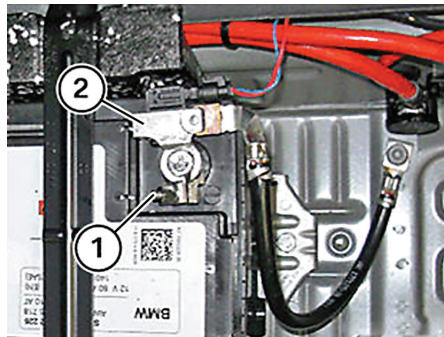

Fig. 1 Ground cable connection location at battery
2. Loosen nut (1), then pull off battery ground lead (2) and IBS in an upward direction, place to one side and secure, **Fig. 1**. Do not under any circumstances use force to pull off ground terminal.